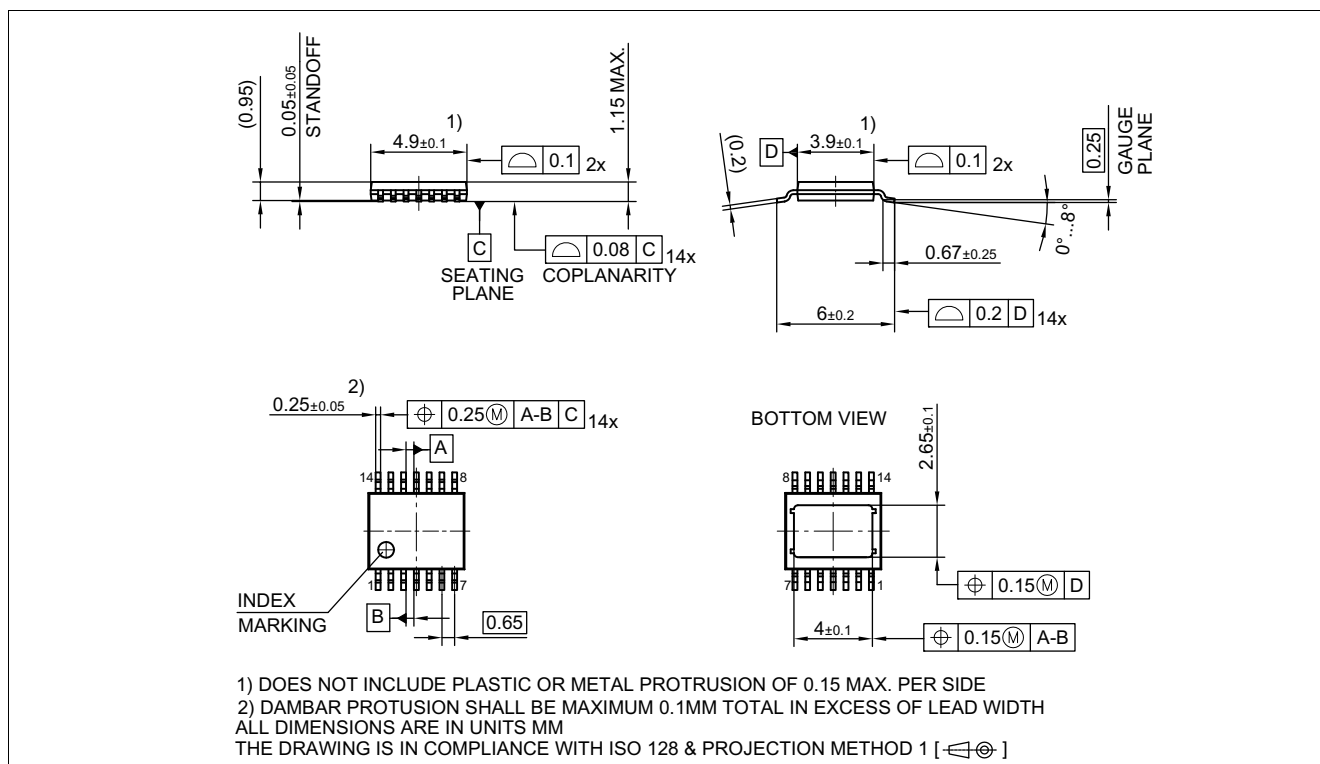
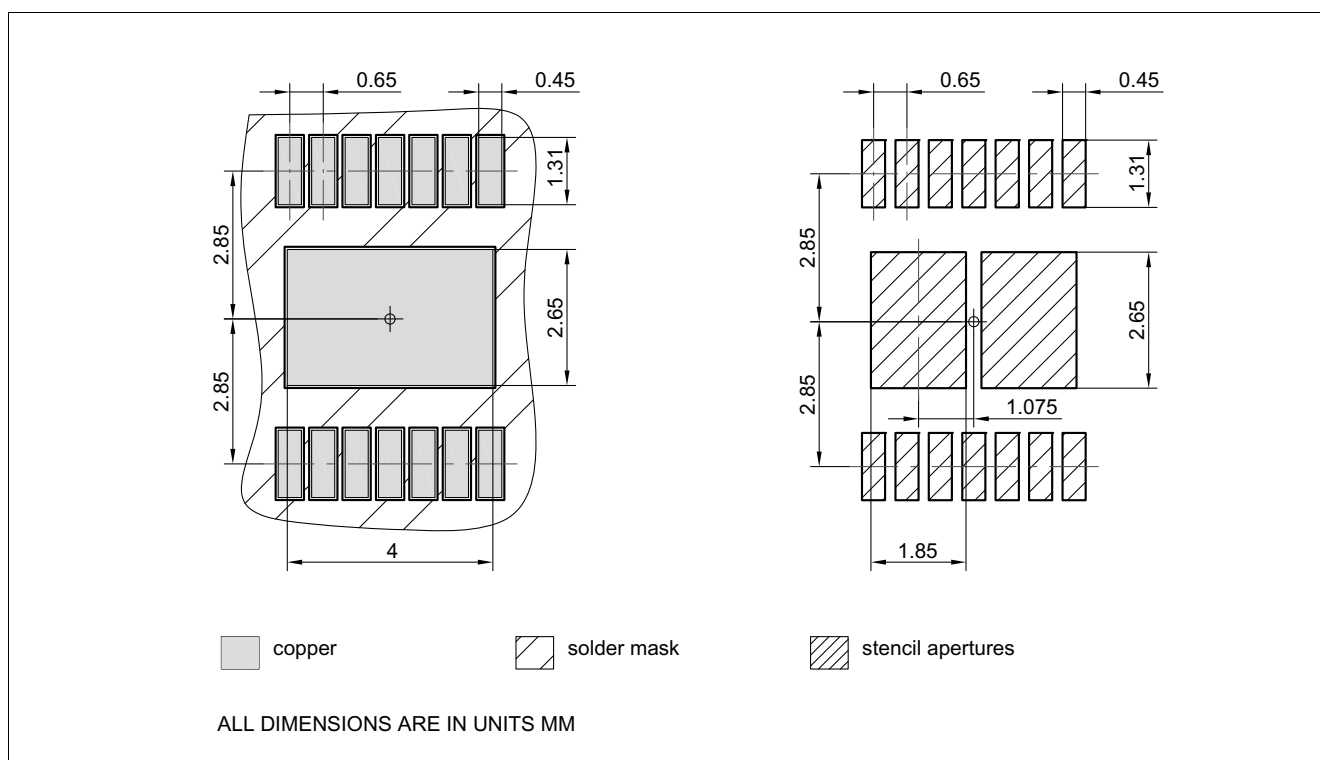

Figure 44 PG-TSDSO-14 (Thin (Slim) Dual Small Outline 14 pins) Package Outline
Figure 45 PG-TSDSO-14 (Thin (Slim) Dual Small Outline 14 pins) Package pads and stencil
1.03 , 2018-10-18	Chapter 9.3.1 updated (typo) Page 1: updated (Package PG-TSDSO-14-22 → Package PG-TSDSO-14) Figure 29 updated Figure 44 updated (PG-TSDSO-14-22 (Thin (Slim) Dual Small Outline 14 pins) Package Outline → PG-TSDSO-14 (Thin (Slim) Dual Small Outline 14 pins) Package Outline) Figure 45 updated (PG-TSDSO-14-22 (Thin (Slim) Dual Small Outline 14 pins) Package pads and stencil → PG-TSDSO-14 (Thin (Slim) Dual Small Outline 14 pins) Package pads and stencil) Table 1 updated ((Symbol: $I_{VS(SLEEP)}$ → $I_{VS(SLEEP)_{85}}$), (Parameter: Minimum Overvoltage protection ($T_J = 25\text{ °C}$) → Minimum Overvoltage protection ($T_J \geq 25\text{ °C}$)) P_9.6.0.6 updated (Note or Test Condition: removed unnecessary line-break) Chapter 7.4.1 updated chapter title (PROFET → PROFET™) Table 12 updated table title (PROFET → PROFET™) Chapter 8.6.1 updated chapter title (PROFET → PROFET™) Table 16 updated table title (PROFET → PROFET™) Chapter 9.5.1 updated chapter title (PROFET → PROFET™) Table 21 updated table title (PROFET → PROFET™) P_4.1.0.21, P_4.1.0.22, P_4.1.0.23, P_4.1.0.24 updated (footnote ESD standards) Table 1 updated ($R_{DS(ON)}$ → $R_{DS(ON)_{150}}$), ($V_{DS(CLAMP)}$ → $V_{DS(CLAMP)_{25}}$) Chapter 8.5.2 updated phrasing P_7.5.2.14 Table subheading "Switching Energy" added P_7.5.2.15 Table subheading "Switching Energy" added Chapter 6.4 added conditions Chapter 7.5 added conditions P_7.5.2.14 updated (Test condition: add "See Figure") P_7.5.2.15 updated (Test condition: add "See Figure") Chapter 8.7 added conditions Chapter 9.6 added conditions P_9.7.2.27 updated (Test condition: add "See Figure") P_9.7.2.29 updated (Test condition: add "See Figure") Chapter 7.3.1 typo corrected (link to Figure 19 added)